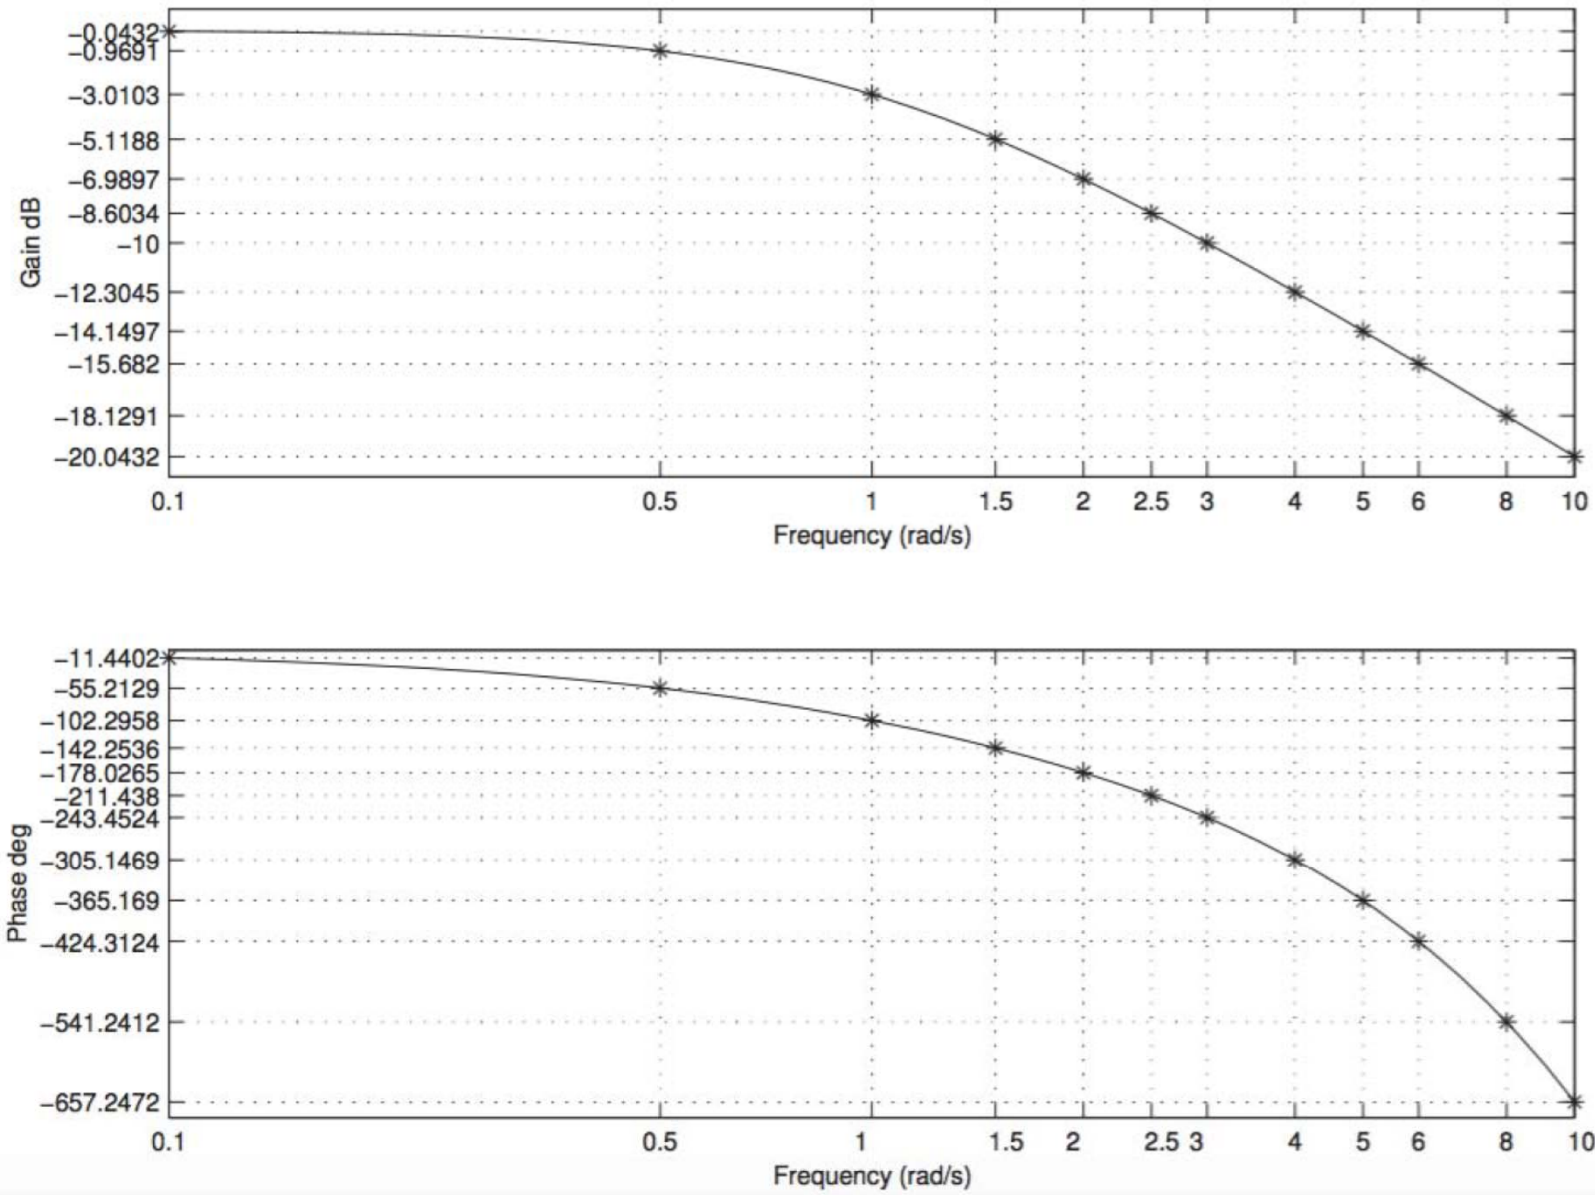

Figure 7: Bode plot
7. The bode diagram of a first-order plant,  $G(s)$ , with unity steady-state gain is shown in Figure 7.